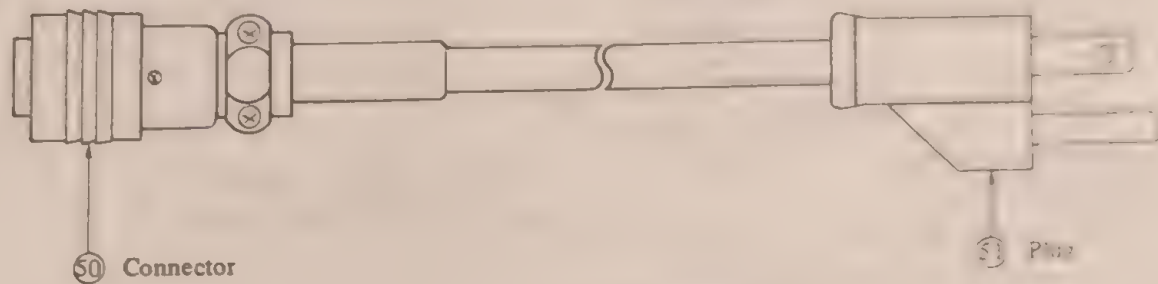

Fig. 7 AC Power Cord
AC power cord has the connector ⑤① to be fixed to the AC power terminal ②② at one end and the plug ⑤① for AC power source at the other end. Fig. 7 shows AC power cord